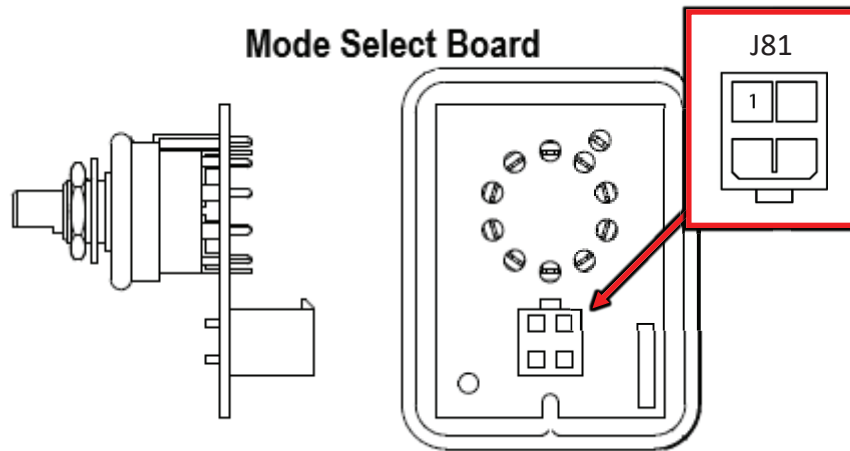

Figure F.2
A.3. Perform the active measurements in Test Table 1, refer to Figure F.2 for test point locations.